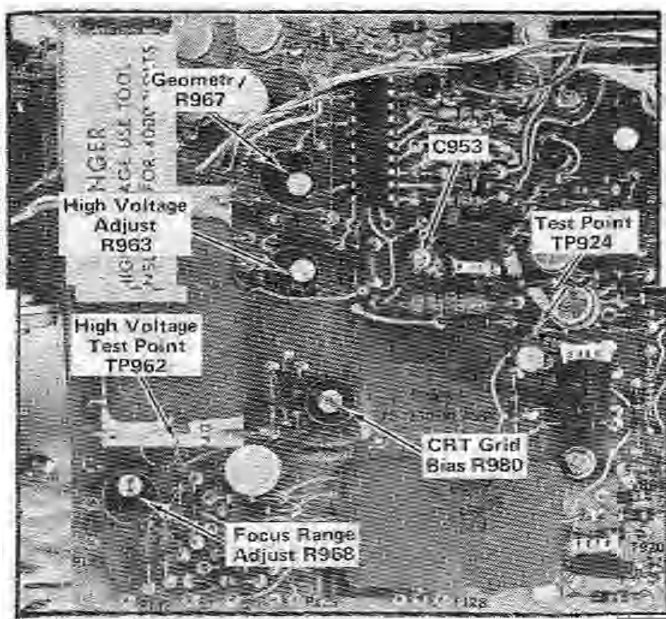

Fig. 5-5 CRT circuit test points and adjustment locations
a. Connect the DC Voltmeter between the -3940 volt test point TP962 (see Fig. 5-5) and ground.
c. ADJUST—High Voltage Adjust R963 (see Fig. 5-5) for a meter reading of -3940 volts, ± 78.8 volts.
a. Attach a 10X probe to the test oscilloscope and connect the tip of the probe to test point TP924 on the Z Axis circuit board. See Fig. 5-5.
g. ADJUST—CRT Grid Bias adjustment R980 (see Fig. 5-5) so the spot on the CRT just disappears.
k. ADJUST—C953 (see Fig. 5-5) for optimum waveform risetime and flat top.
d. ADJUST—Focus Range adjust R968 (see Fig. 5-5) and ASTIG adjust R85 (located on rear panel) for optimum focus of both the horizontal and vertical portions of the display.